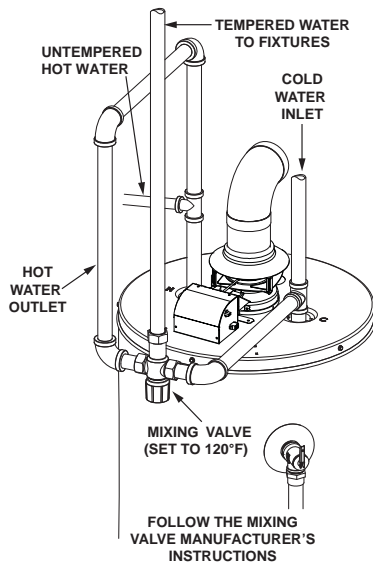

FIGURE 17.
3. The manufacturer of this water heater recommends installing a mixing valve or an anti-scald device in the domestic hot water line as shown in Figure 17. These valves reduce the point-of-use temperature of the water by mixing cold and hot water and are readily available for use.
For protection against excessive pressures and temperatures, a temperature and pressure relief valve must be installed in the opening marked "T & P RELIEF VALVE" (see Figure 17). This valve must be design certified by a nationally recognized testing laboratory that maintains periodic inspection of the production of listed equipment or materials as meeting the requirements for Relief Valves for Hot Water Supply Systems, ANSI Z21.22. The function of the temperature and pressure relief valve is to discharge water in large quantities in the event of excessive temperature or pressure developing in the water heater. The valve's relief pressure must not exceed the working pressure of the water heater as stated on the rating plate.